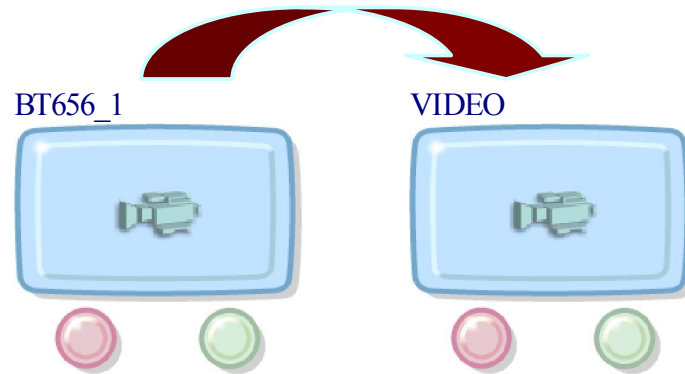

Figure 73. Renaming the video capture controller
8. Single-click the component text **BT656_1** and hit **F2** to perform an In-Place edit of the text. Change this to **VIDEO** as seen in Figure 73.